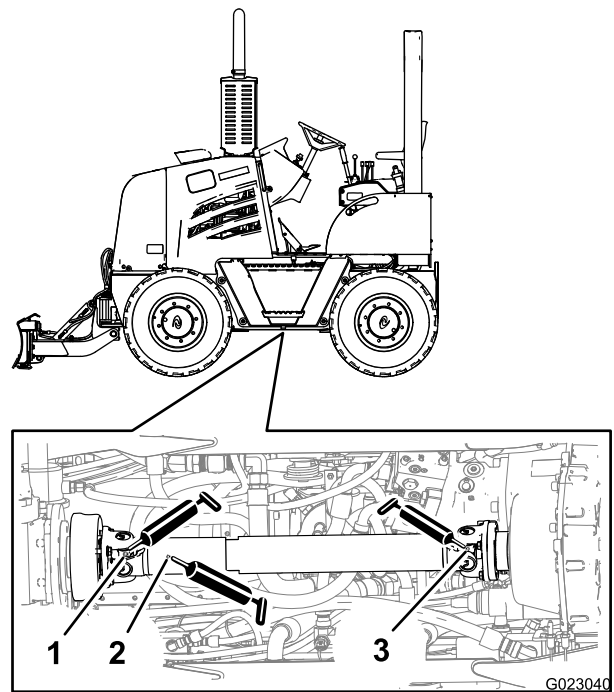

Figure 34
2. Connect the grease gun to the grease fitting for the slide coupling at the at the forward end of the drive shaft, and apply 2 or 3 pumps of grease to the fitting (Figure 34).